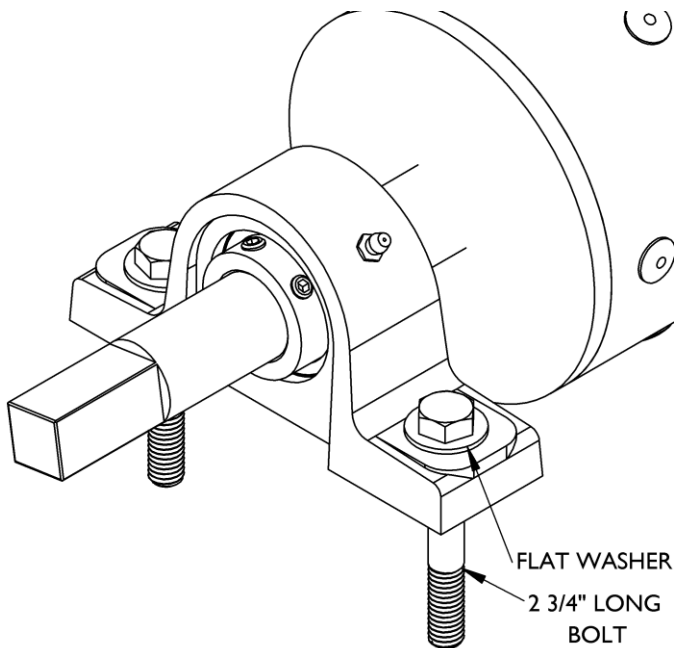

Figure 9
8. Slide two pillow block bearings on each shaft. Place 2 3/4" long bolts and flat washers on pillow block holes. See Figure 9.